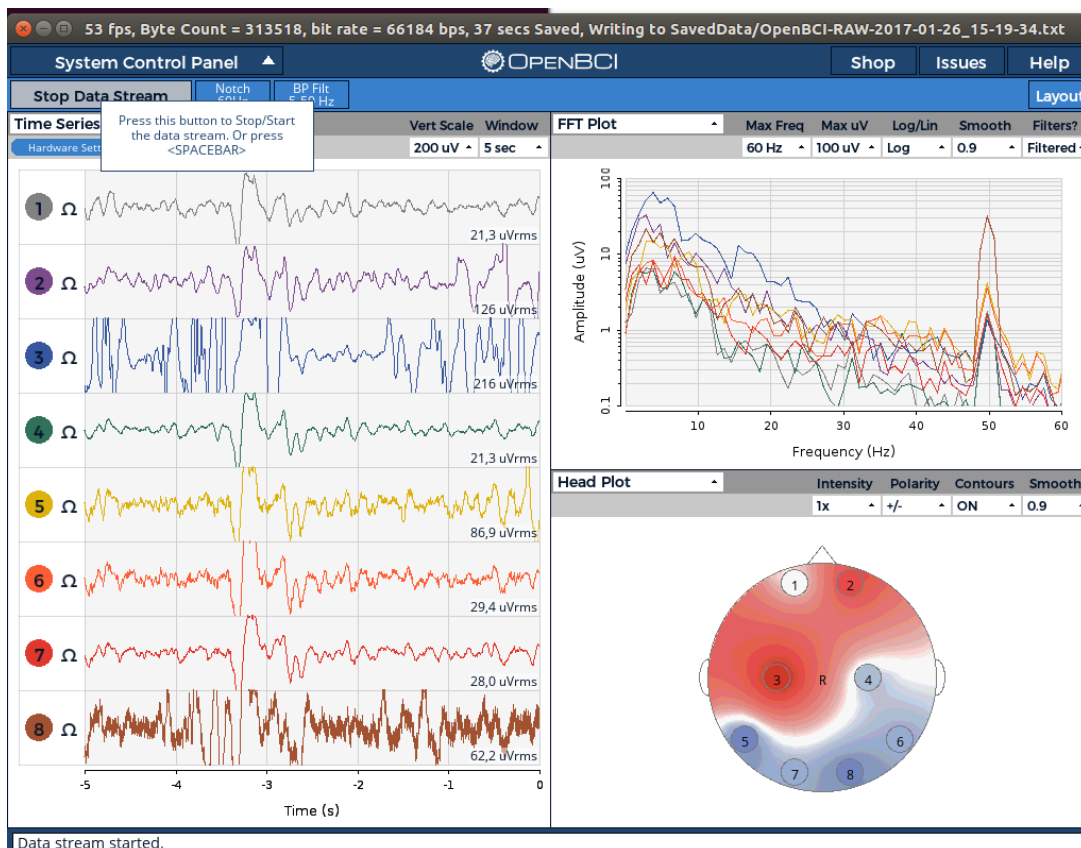

Figure 2: Display obtained by finger rubbing the board's pins.
- Press START DATA STREAM. You should see same waves on the channel plots section. Since no electrodes are yet connected you may see the word RAILED on the right hand size. To check that the connection is well established, gently rub your fingers over the pins. You should be able to see something as shown in Figure 2.